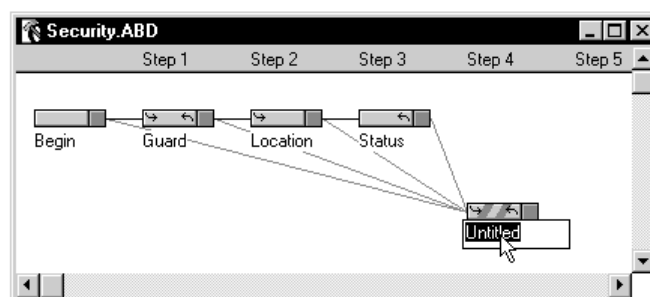

Figure 4-12 Edit Detour Handler Name
14. Click **Untitled** to edit the name of the Detour Handler (Figure 4-12). Since we are using the Detour Handler to report a scanning error, we will name the handler **Error**.